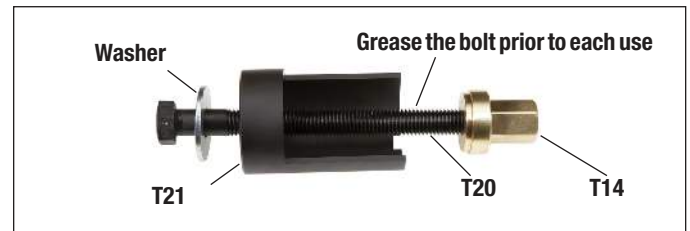

Figure 75 – Short Guide Pin Removal Tool
5.6.16 Use the tool combination shown in Figures 75 and 76 (comprising T14, T20, T21, and a washer) to remove the bushing (6). Screw nut (T14) onto the assembly by hand, then tighten the bolt (T20) using a box end wrench to draw out the bushing. Discard the removed bushing, and verify that the bore is clean by wiping with a shop cloth.